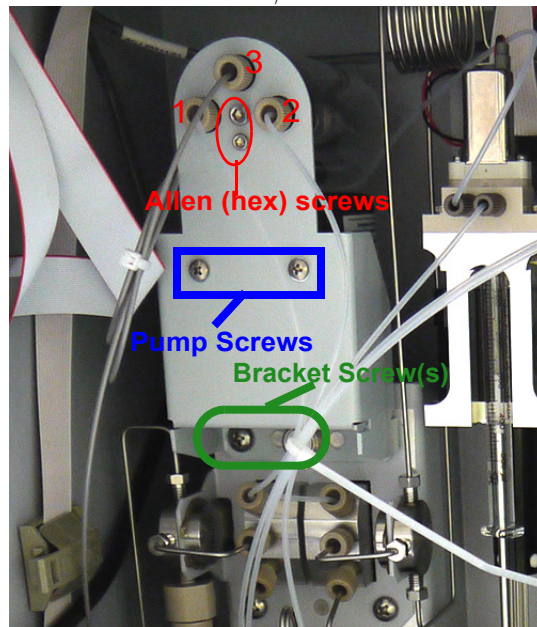

Figure 81: Tubing Connections and Screw Placement
1. Attach the pump head and motor to the pump bracket securing with the pump screws (Figure 81).
3. Attach the ICR bracket to the Analyzer using the one (or two) bracket screws (Figure 81).
4. (Reconnect the three knurled-nut tube connectors (1, 2, and 3 in Figure 81) to the degasser. The restrictor tubing from the chemical trap goes into position 3.